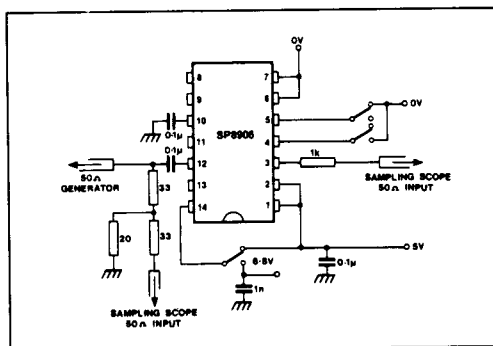

Fig.6 Test circuit
- 2 The test configuration for dynamic testing is shown in Fig. 6